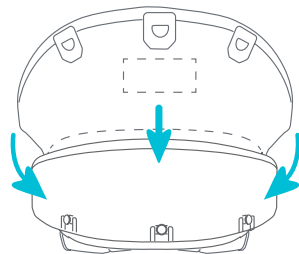

Fig. 7b
- To reattach the fabric, insert the warning label side towards the backrest of the seat base. Fold the fabric over and insert the rear center plate into the tab. Continue to connect all plates around the seat base tabs. All plates and tabs must be secured before use (Fig. 7b).